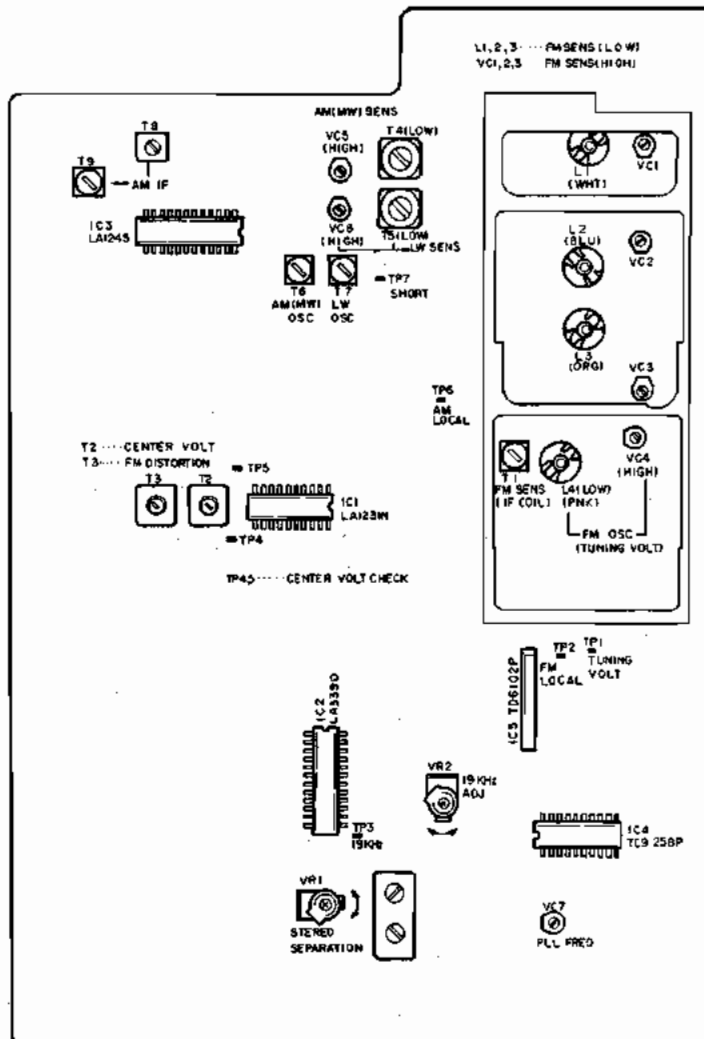

Fig. 2-9 Tuner PCB
1) AM (AA-R22L : MW) SECTION ADJUSTMENT (Refer to Figs. 2-9, 10)
2) LW SECTION ADJUSTMENT (AA-R22L only) (Refer to Figs. 2-9, 10)
3) FM SECTION ADJUSTMENT (Refer to Figs. 2-9, 11)